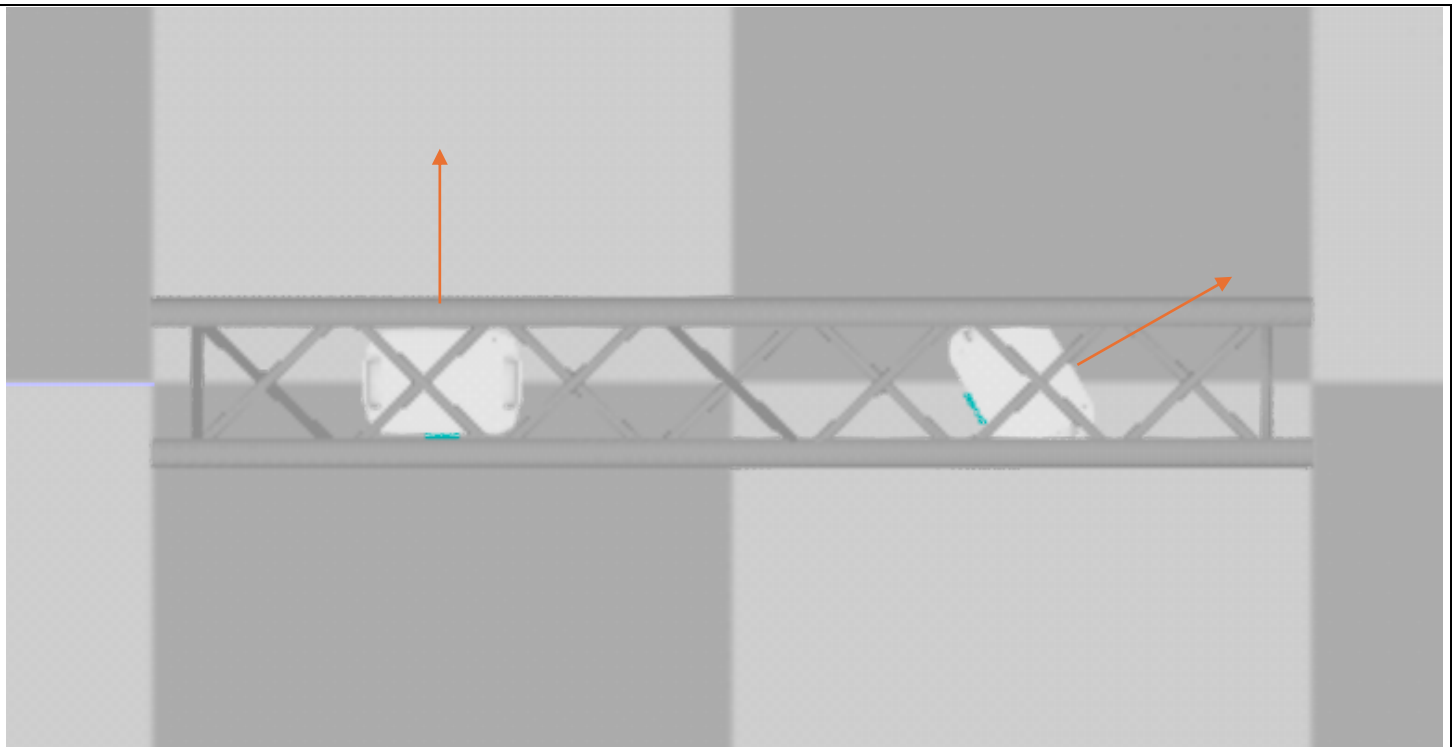

Figure 1 – The left MoveVision is correct, the right MoveVision is hanging with 30 Degree.
- *Please see Figure 1 & 2 for correct orientation.*